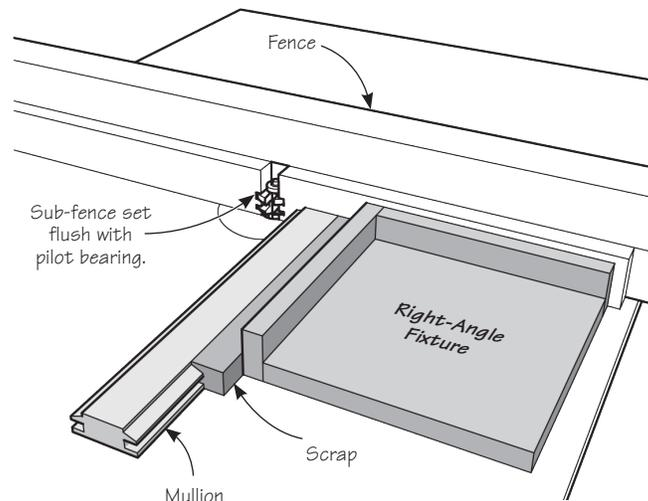

Figure 10: Using a right-angle fixture.
9. Use a right-angle fixture to guide the ends of the rails and mullions through the router (see **Figure 10**). Use a scrap piece of stock with a coping cut along its length to support the rails and mullions to prevent tear-out.